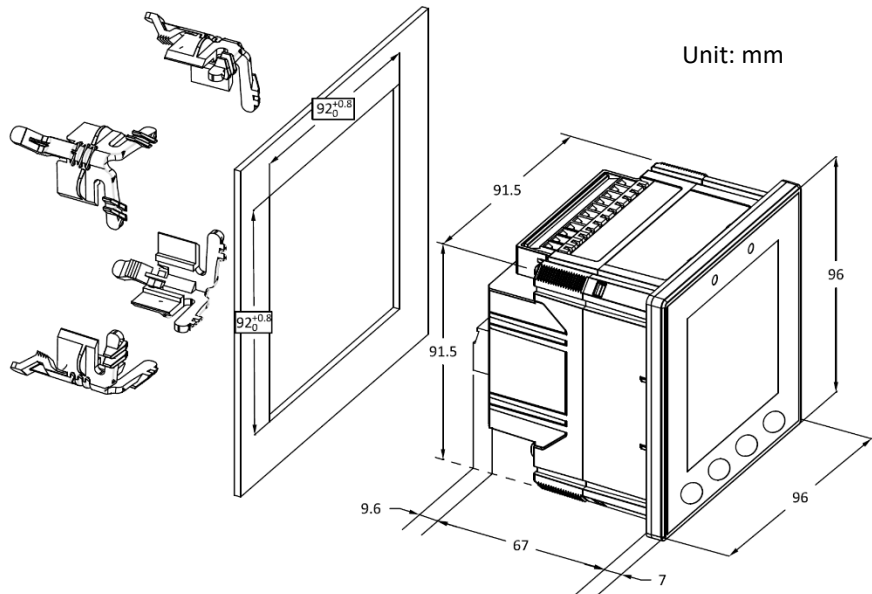

Figure 2-16 Panel Cutout Mounting
- Fit the meter through a 92x92mm cutout as shown in **Figure 2-16**